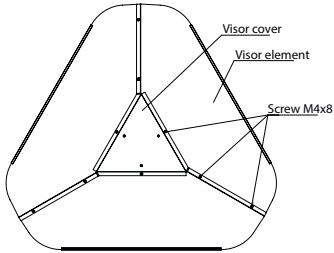

Fig.15 - Assembling the visor
- Connect the elements of the visor together, as shown in Fig. 15. Fasten the connections with